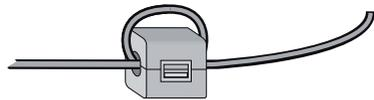

Fig. 18
- Close the ferrite sleeve (fig. 18).